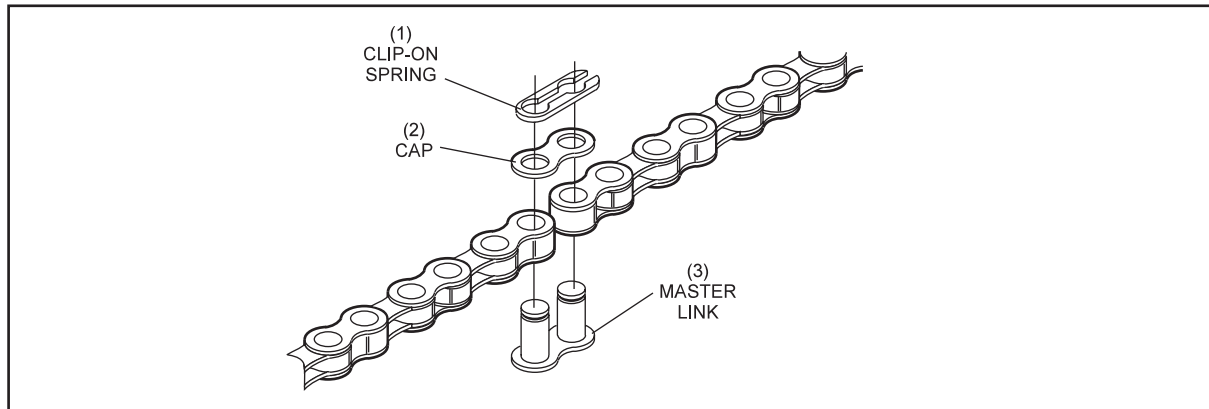

Figure 8-15. Chain Repair.
(1) CHAIN REPAIR TOOL
(2) CHAIN
6. Place the cap on both pins of the master link. Refer to *Figure 8-15*.